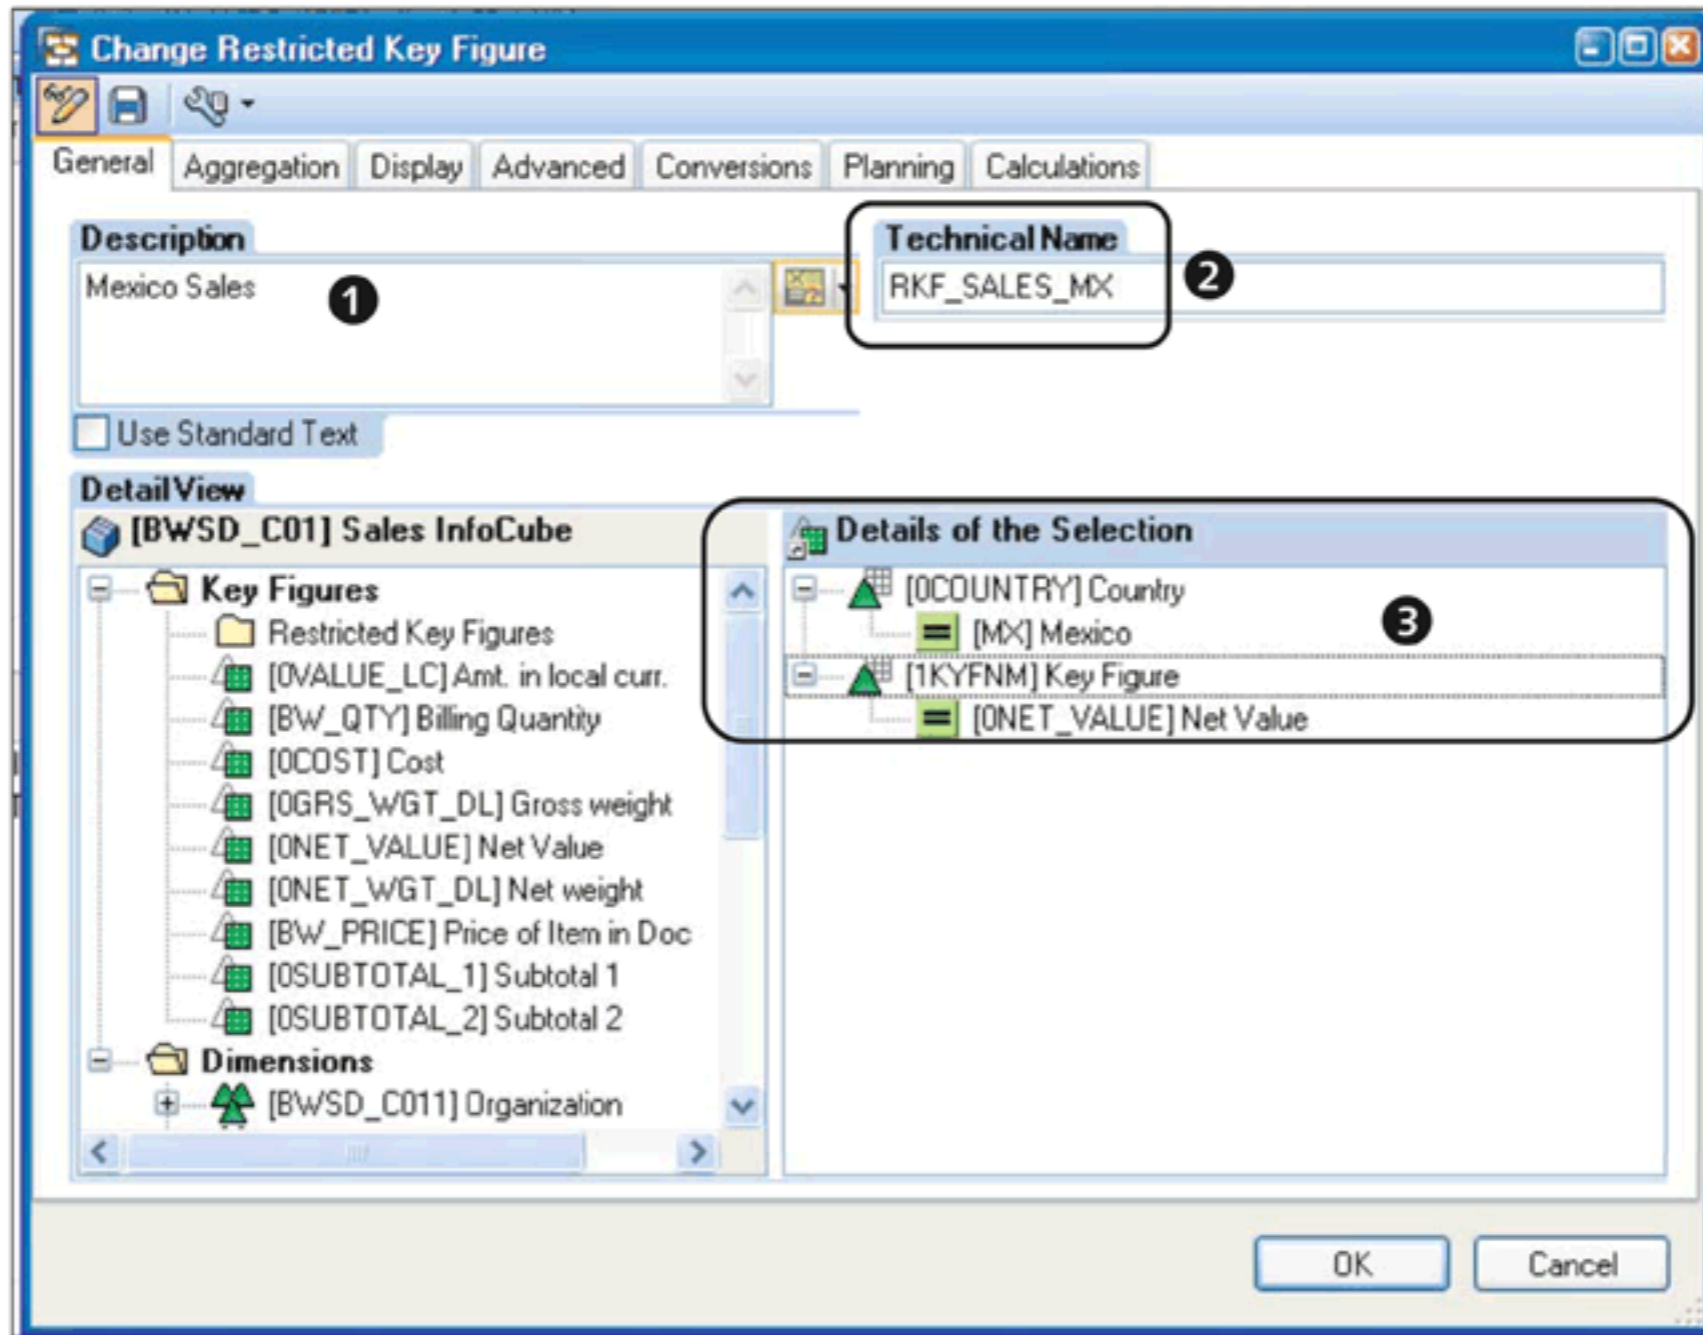

Figure 9.63 Define RKF
You have to provide the RKF a suitable DESCRIPTION (❶ of Figure 9.63) and also a TECHNICAL NAME (❷) in the definition screen.